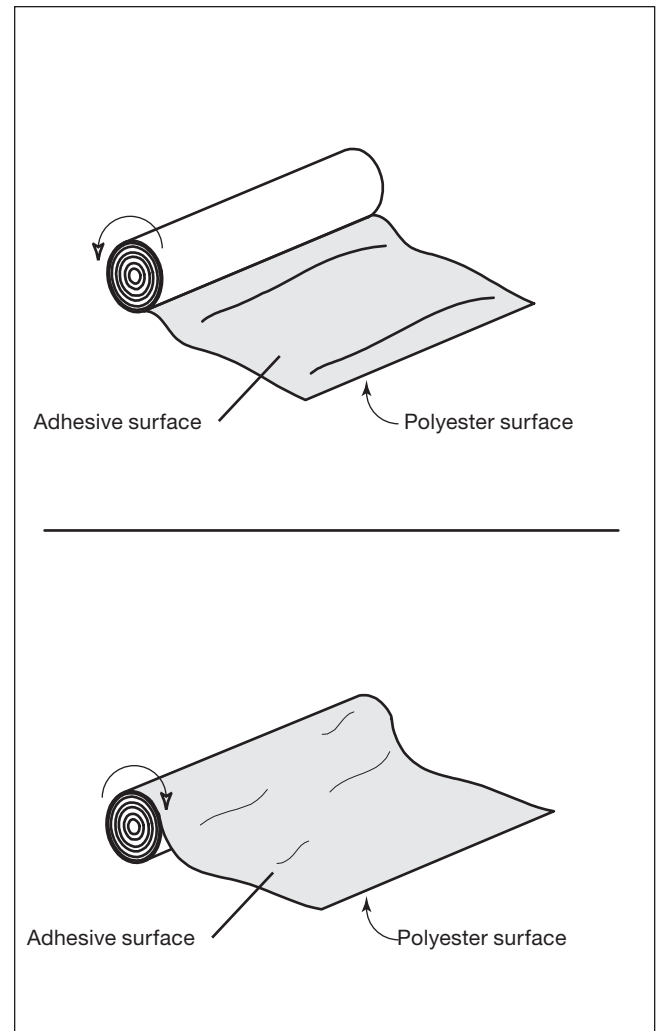

Fig. 6-2. Poly-in and Poly-out Films.
2. Slide the new roll on to the shaft and core adaptors, referring to Fig. 6-2 to determine how the film unwinds from the roll.